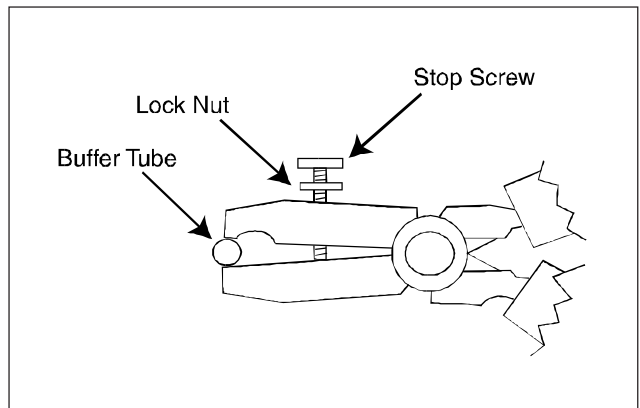

Figure 4
6.1 To secure buffer tubes to the tray, first adjust the crimping tool. Adjust the stop screw so the jaws of the tool are equal to the outer diameter of the buffer tube (Figure 4). Tighten the lock nut.